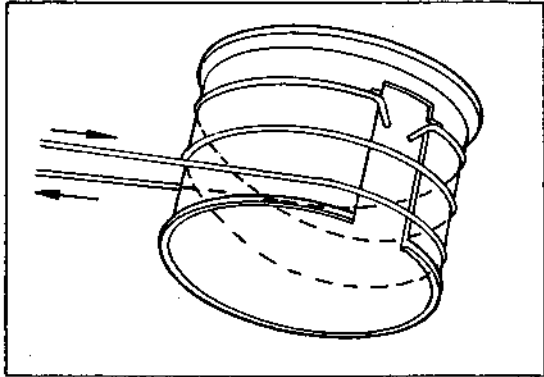

Fig. 2-7. Wrapping the dial cord
2. Run the cord through the slot in the rim of the drum and wrap clockwise turn as shown in Fig. 2-7.
4. Run the cord over pulleys "B", "C" and "D", then wrap two clockwise turn around the drum from outer groove to inner groove as shown in Fig. 2-7.